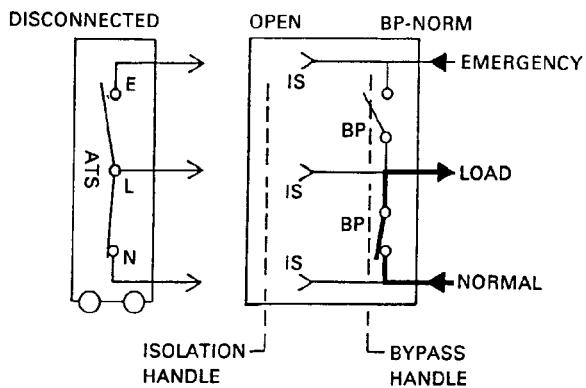

Figure 3-5. Isolated (DISCONNECTED) ATS.
2. Isolate the Automatic Transfer Switch as follows. Refer to Figure 3-4 and Figure 3-5.